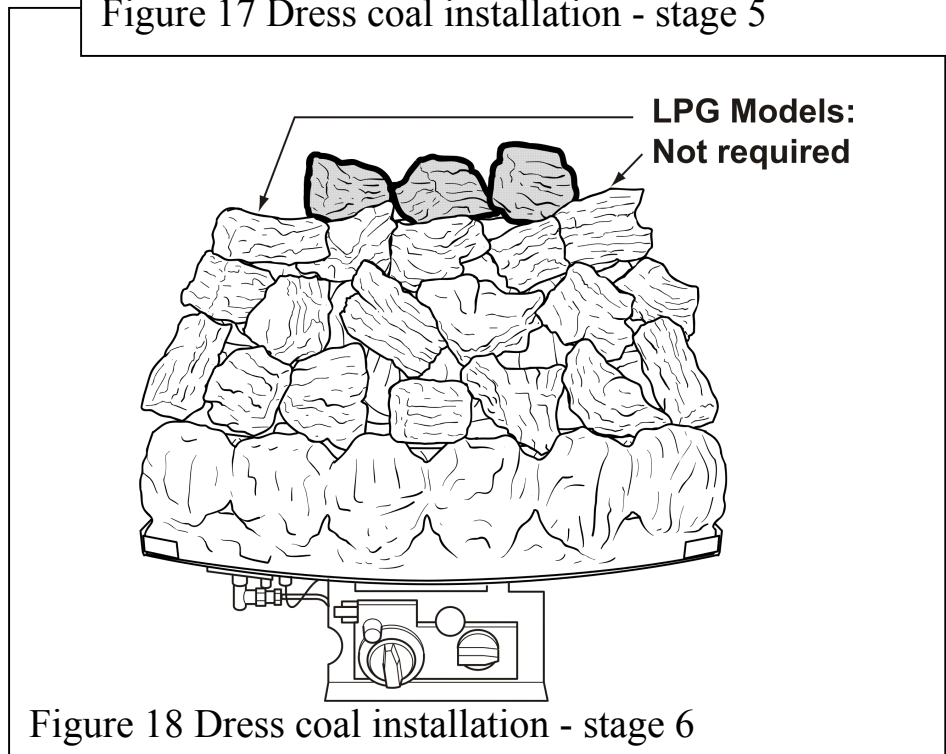

Figure 18 Dress coal installation - stage 6
3.6. Finally, take the three remaining square coals and position at the back of the matrix as shown in figure 18. These coals should also overlap the previous row by 5-10mm. In order to get the best flame effect, it is important that the coals have roughly equal gaps between them.